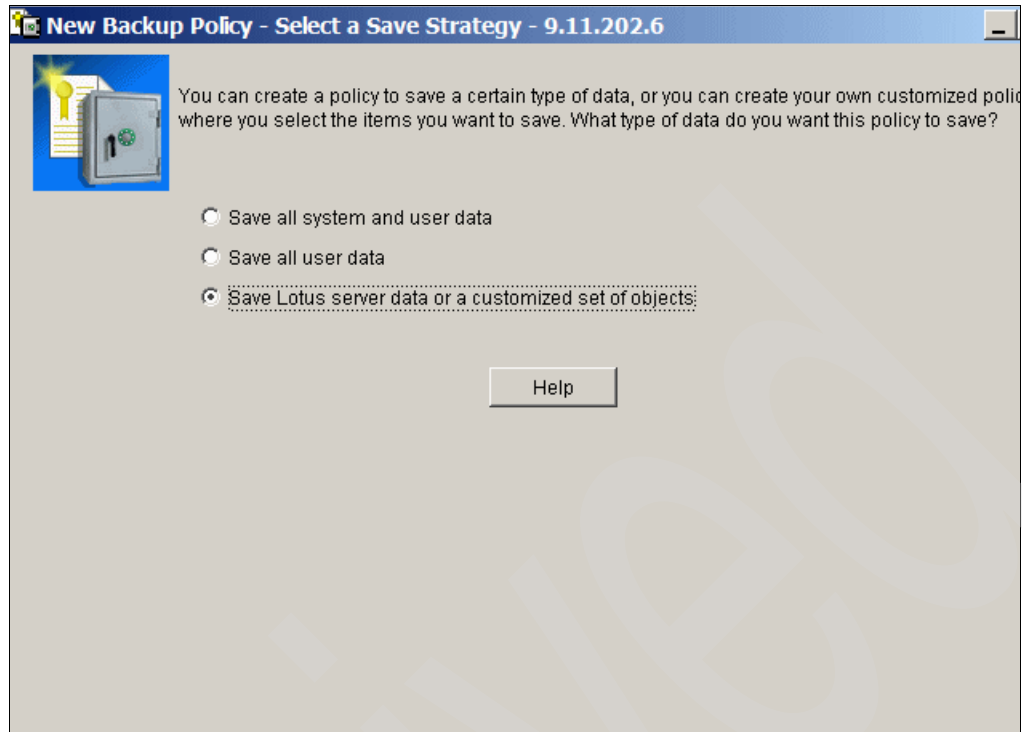

Figure 6-16 New Backup Policy wizard - Select a Save Strategy
5. In the next wizard window, specify which data you want to save by using this backup policy. In our example we plan to save one database library. For this, we have to use the option *customized set of objects*, so we select **Save Lotus server data or a customized set of objects**, as shown in Figure 6-16. Click **Next**.